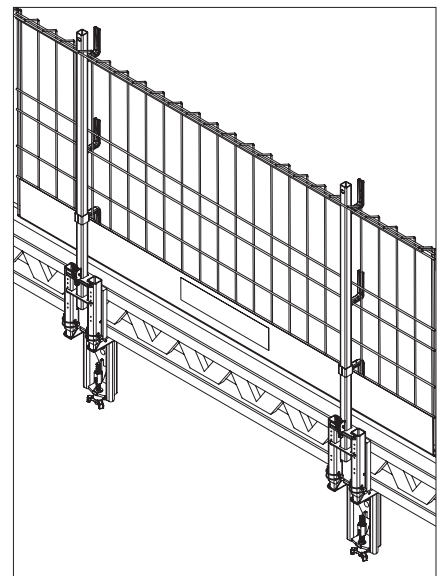

Fig. A2.16
- Anti-fall protection with PROKIT EP 110. (Fig. A2.16)